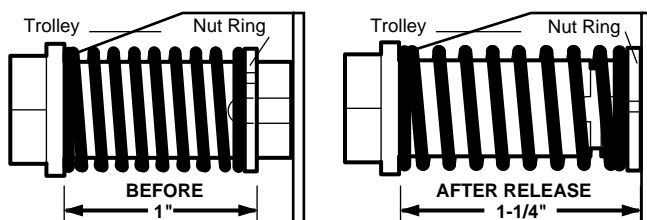

Figure 3
- Place a 7/16\" open end wrench on the square end. Rotate about 1/4 turn until the spring releases and snaps the nut ring against the trolley (Figure 3).